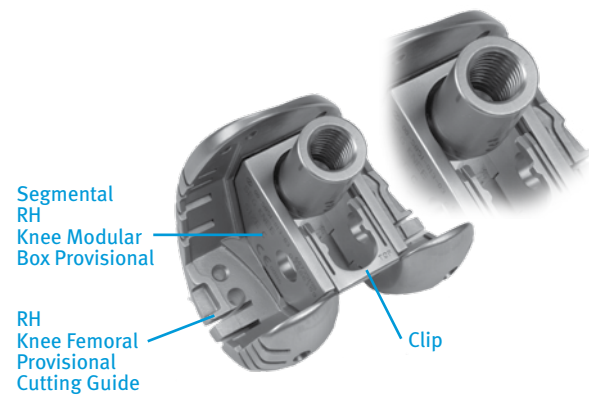

Fig. 138
- Slide the Segmental/RH Knee Modular Box Provisional onto the Femoral Provisional/Cutting Guide and push the clip until it snaps into place (Fig. 138).